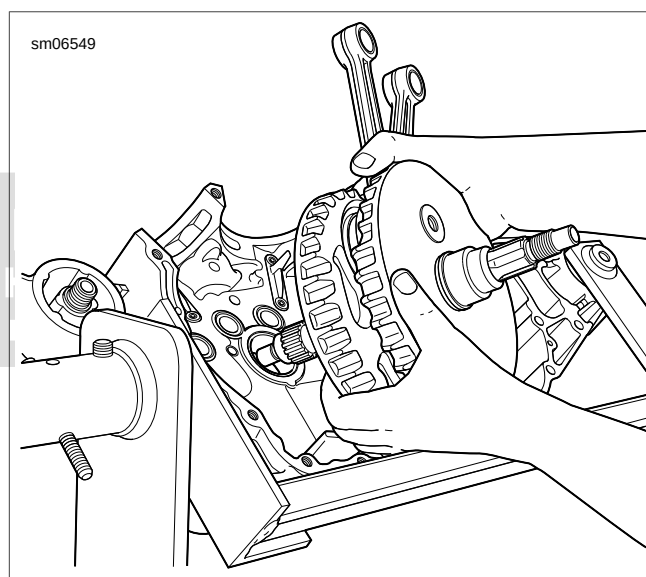

Figure 3-112. Removing Flywheels from Right Crankcase
7. See Figure 3-112. Remove the flywheel assembly from right crankcase.